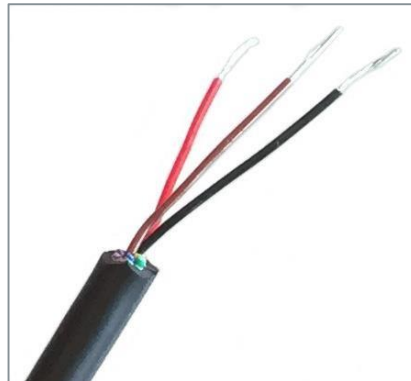

Figure 5-4: Stripped Cable Conductors
1. Strip the outer serial cable insulation back to expose the inner conductors, Figure 5-4. **Only the red, black and brown conductors will be used.** You may cut the remaining conductors back to end of the outer insulation to keep them out of the way.